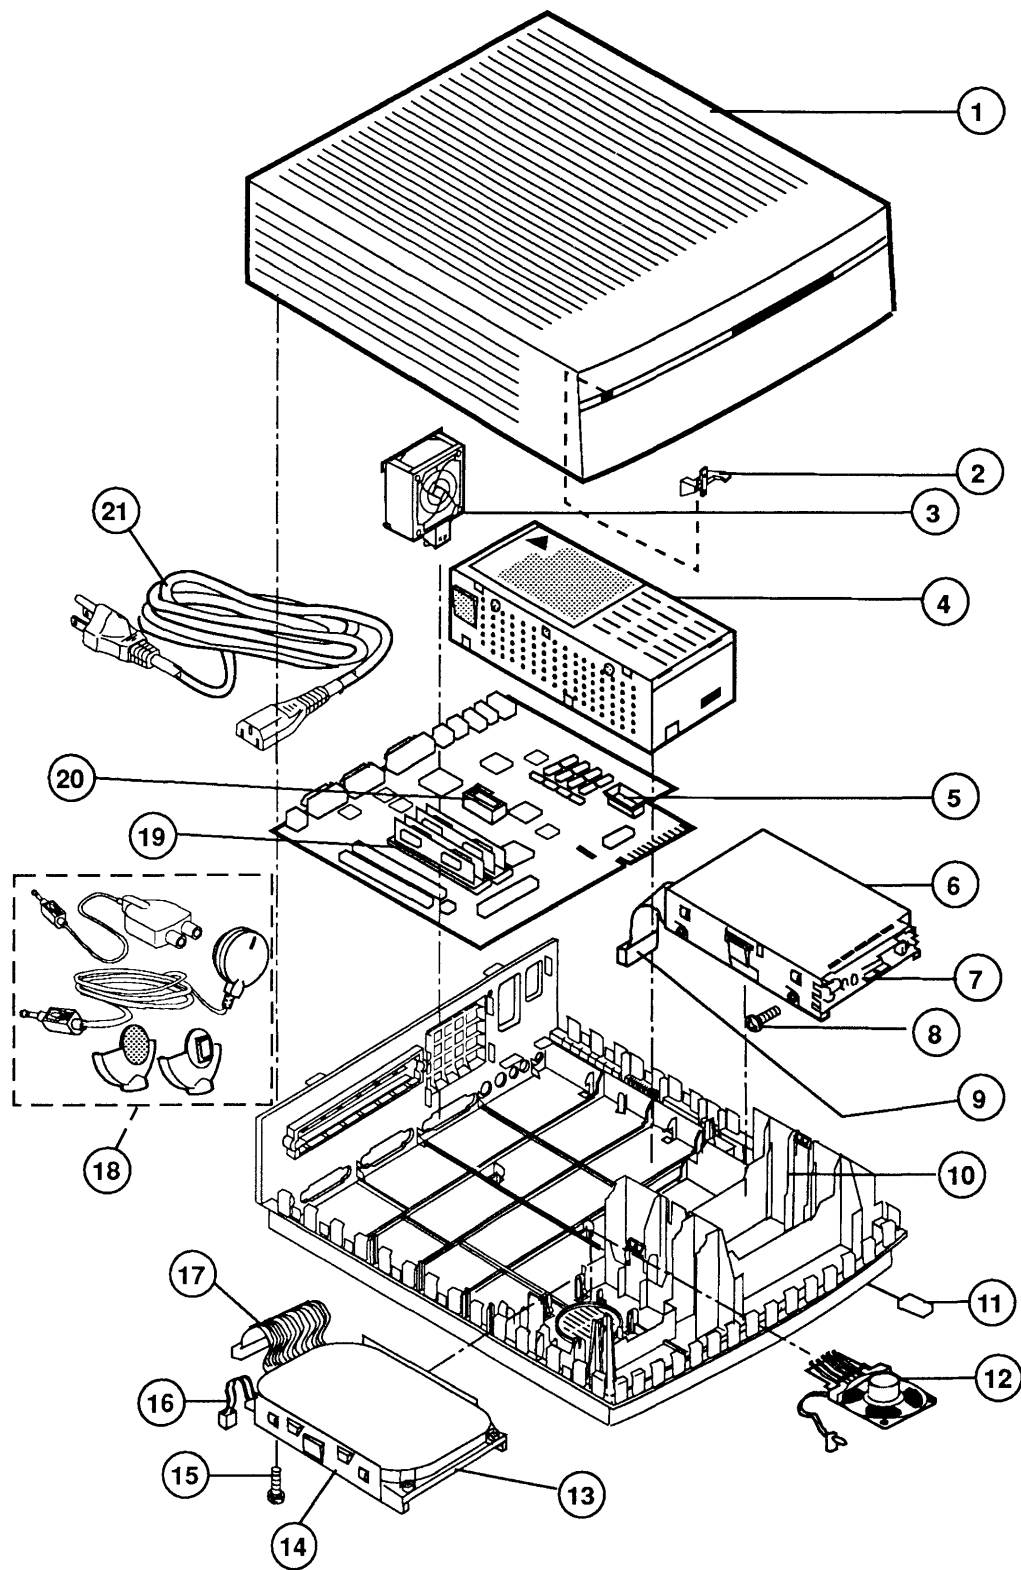

FIGURE 1
(Figure 1)
□ MACINTOSH IIsi – SYSTEM EXPLODED VIEW (Figure 1)